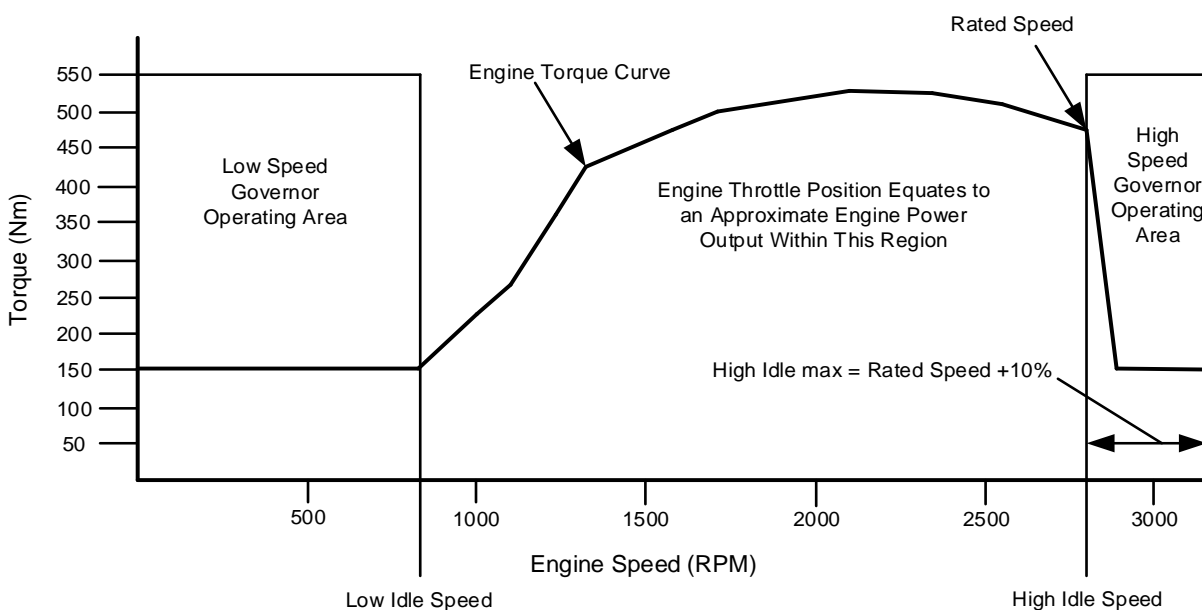

Figure 14-1 Min Max Governor Operating Regions
Figure 14-1 illustrates the Min/Max engine speed governor operation across the engine operating speed range. The curve is bounded by the rating torque curve between LI and Rated engine speed (RS) once above rated speed the HSG limit curve takes over. For a fixed throttle position, the Min/Max governor will deliver a constant amount of power proportional to the throttle position, the engine power output will remain fairly constant, and engine speed will vary with engine load.
Min/Max governing above the configured Rated speed (RS) is limited by the HSG limit curve. This region of operation is often referred to as the overrun region (shown in Figure 14-1 as the High Speed Governor operating area). The HSG limit curve is always below the rated torque curve. This curve is linear and the slope of the line is determined by the configured Rated speed point (RS) and HI engine speeds (run out line).